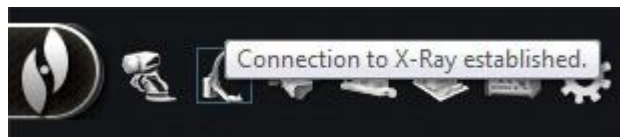

Figure 90. ToolTip displaying X-ray status message summary
- **ToolTips (Figure 90):** Hold the cursor over the button to view the ToolTip status message summary.